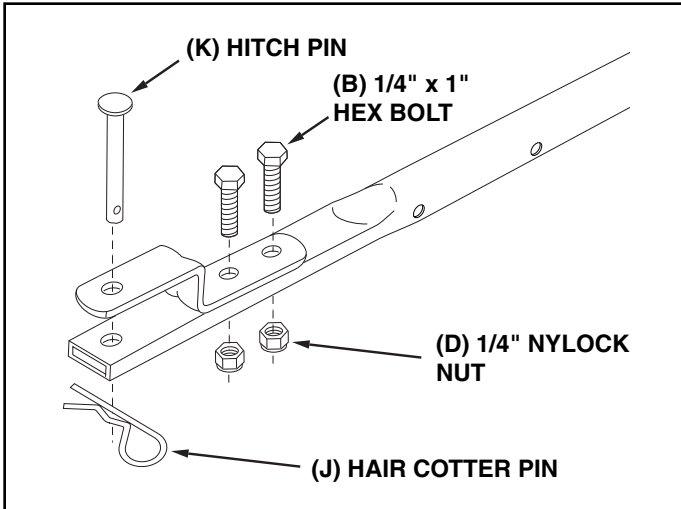

FIGURE 5
12. Assemble the hitch bracket to the top of the hitch tube using two 1/4" x 1" hex bolts (B) and 1/4" nylock nuts (D). See figure 5.
13. Assemble the hitch pin (K) through the hitch bracket and the hitch tube and secure with the hair cotter pin (J). See figure 5.